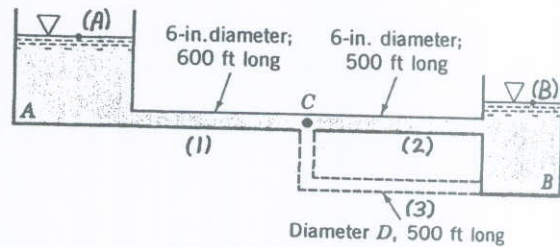

FIGURE P8.110
**8.110** The flowrate between tank A and tank B shown in Fig. P8.110 is to be increased by 30% (i.e., from  $Q$  to  $1.30Q$ ) by the addition of a second pipe (indicated by the dotted lines) running from node C to tank B. If the elevation of the free surface in tank A is 25 ft above that in tank B, determine the diameter,  $D$ , of this new pipe. Neglect minor losses and assume that the friction factor for each pipe is 0.02.